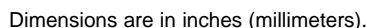

Figure 49. DGN PowerPAD PCB Etch and Via Pattern
1. PCB with a top side etch pattern as shown in Figure 49.